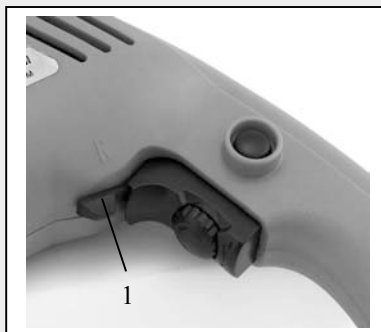

Fig. 1
The forward / reverse switch (1) is conveniently mounted above the trigger switch (Fig. 1). To make the drill rotate clockwise for drilling or driving screws, push the forward / reverse switch to the left. To make the drill rotate counter clockwise for removing screws, push the forward / reverse switch to the right.